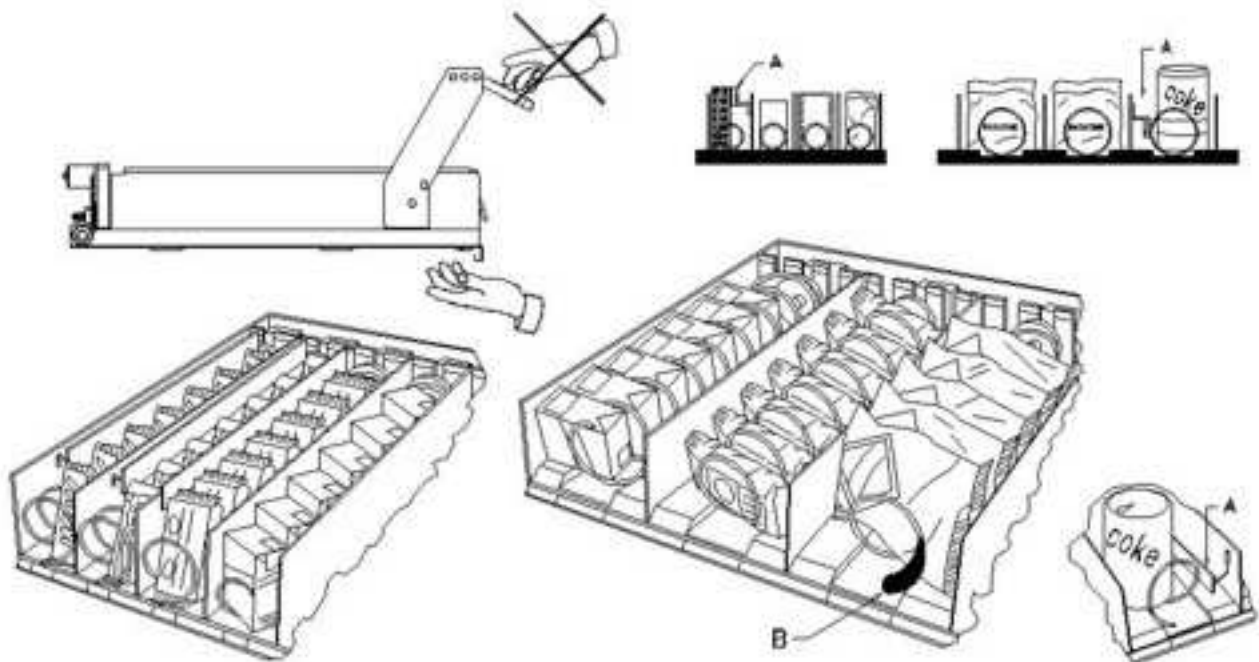

fig. 3
8.2 SPACER FOR PRODUCTS ON FOOD ZONE (Fig.3)
8.3 PRODUCT EXPELLER (Fig.3)